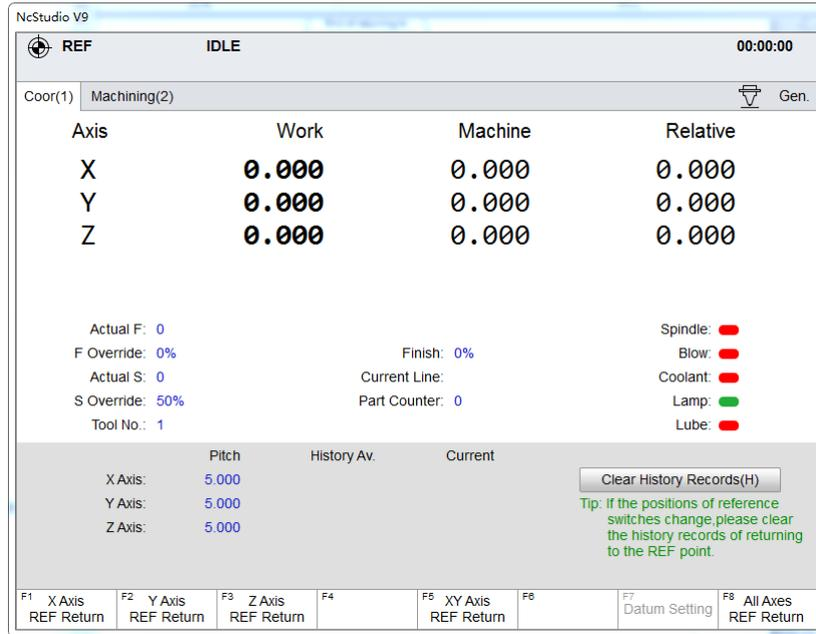

Fig. 3-7 Three Axes Standard Configuration—Returning to REF Origin
Under three axes standard configuration, turn the system into REF point mode, press key  to enter interface 「Coor (1)」, as shown in Fig. 3-7.